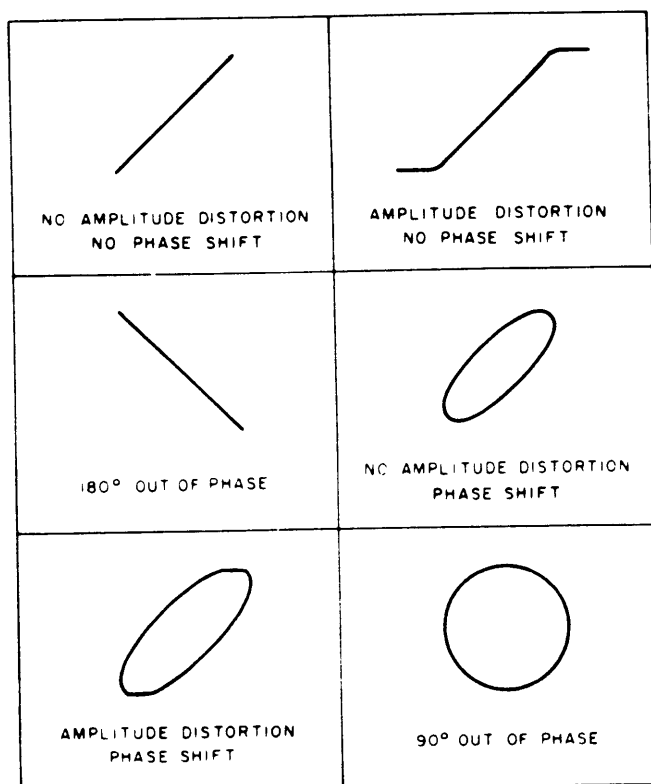

Fig. 21. Typical phase measurement scope displays.
7. Some typical results are shown in Fig. 21. If the two signals are in phase, the oscilloscope trace is a straight diagonal line. If the vertical and horizontal gain are properly adjusted, this line is at a  $45^\circ$  angle.